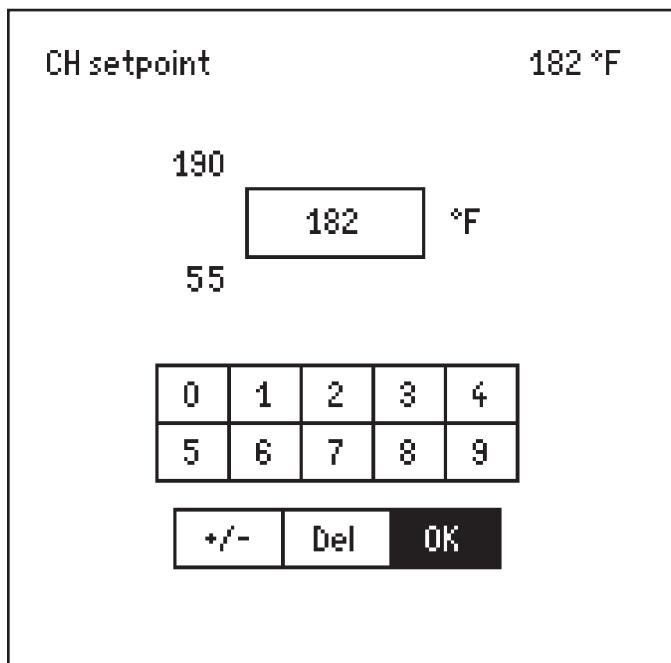

Fig. D5-4 – Changing a value
- Press the round OK button to select that line. Figure D5-4 shows a typical screen for this type of setting.